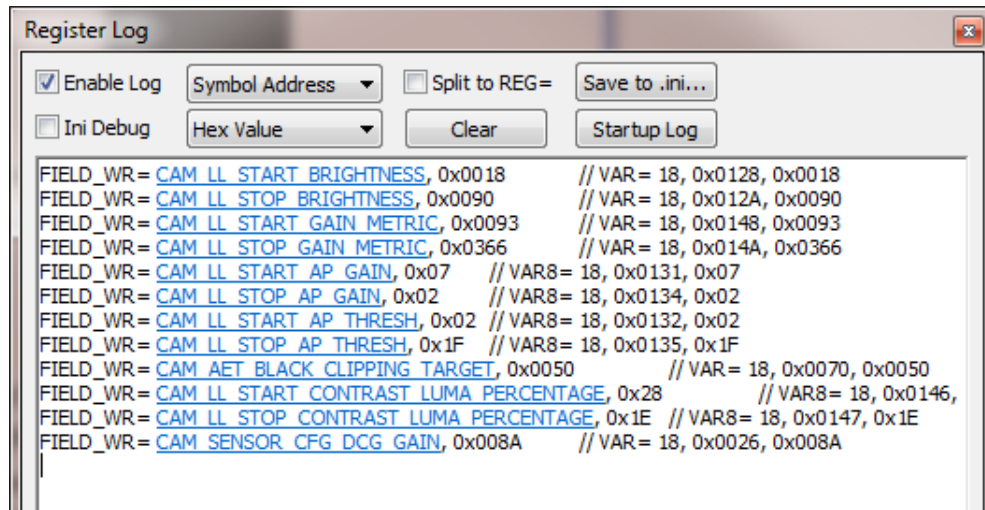

Figure 71. Log Window in DevWare
1. In DevWare, open the *Log* window and check only *Enable Log* as shown in Figure 71.
3. Open the Log window and check only *Enable Log* as shown in Figure 71.